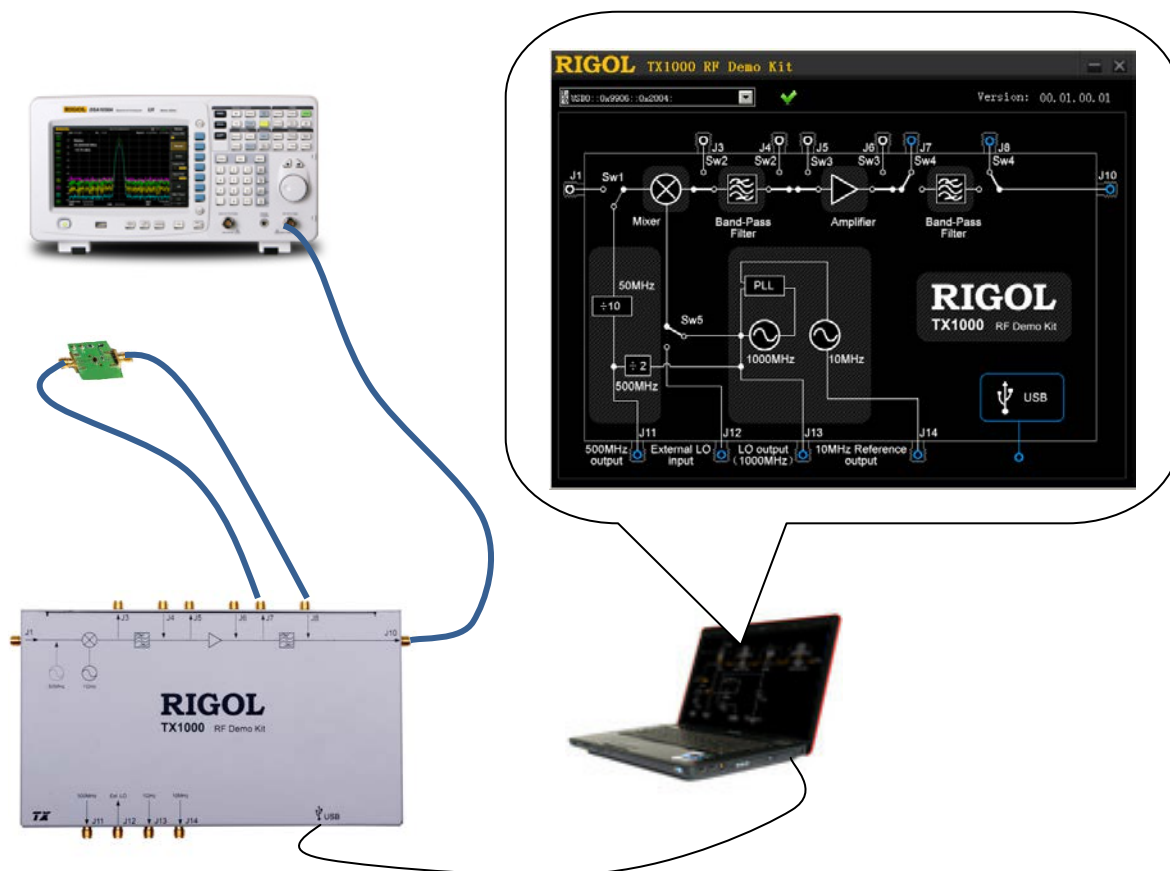

Figure 9 The Influence of the Performance of the Filter on the System
1. Connect the PC and TX1000 using USB cable, connect J10 of TX1000 and the RF input terminal of the spectrum analyzer using N-SMA cable and connect the filter to J7 and J8 using two SMA-SMA cables (to replace the internal filter of TX1000) as shown in Figure 9;